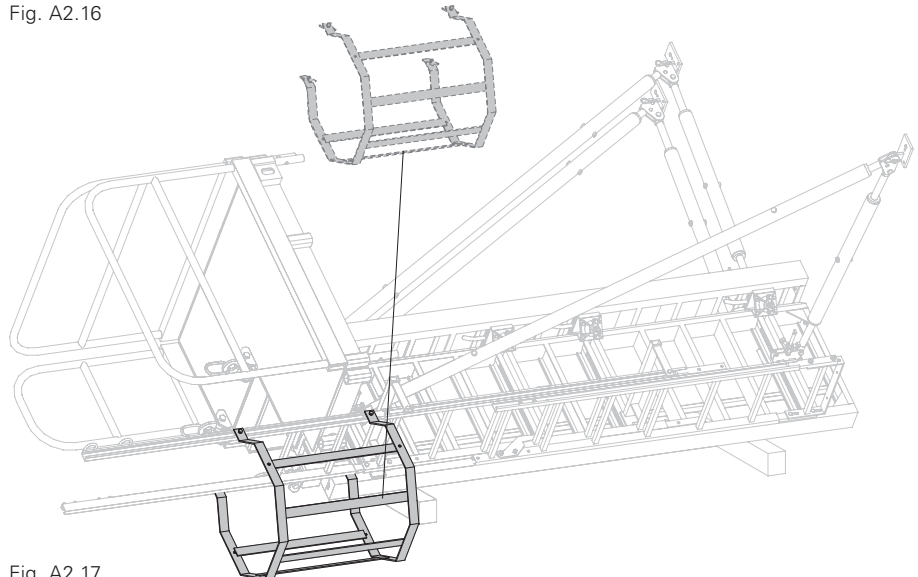

Fig. A2.17
4. Mount Ladder Safety Cage 150 or 75 with clamping plates according to plan. Depending on the situation, mount with overlapping ladder joints. (Fig. A2.17) Clear spacing between the ladder safety cages ≤ 30 cm. Visual check of the clamping plates. The contact surface must rest against the ladder profile.